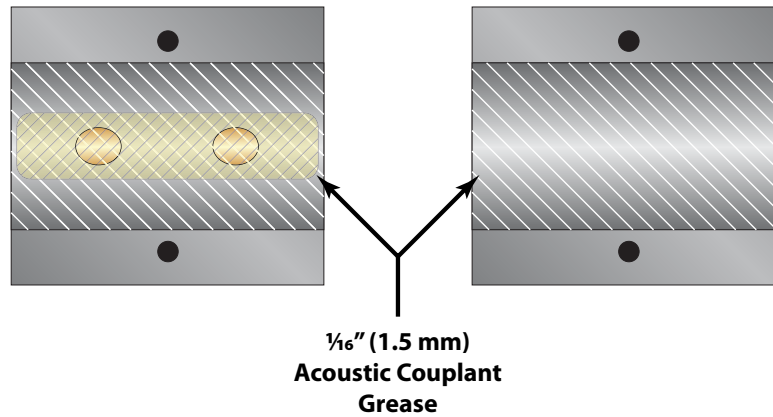

FIGURE 2.6 - APPLICATION OF ACOUSTIC COUPLANT — DTS/DTC TRANSDUCERS
- 1) Apply a thin coating of acoustic coupling grease to both halves of the transducer housing where the housing will contact the pipe. See **Figure 2.6**.